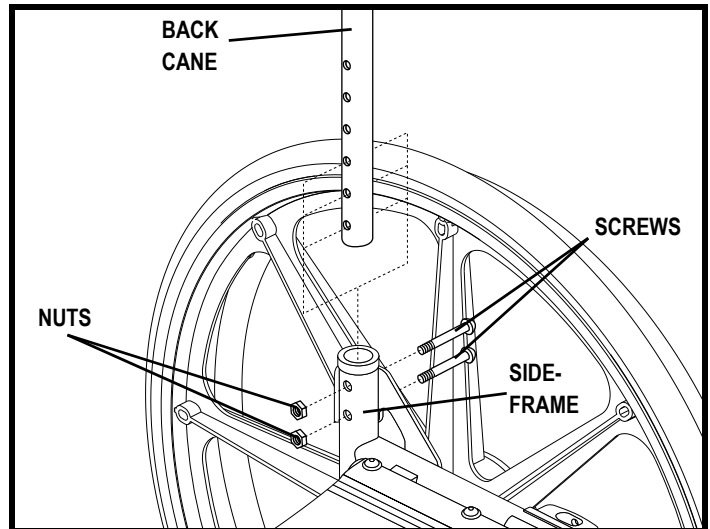

Figure 26. Seatback Height Adjustment
You can adjust the seatback to one of two different heights. The adjustment range is 5 cm (2 in.) in 2.5-cm (1-in.) increments. See figure 26.
1. Remove the top screw and nut from the back cane and loosen the lower screw. See figure 26.